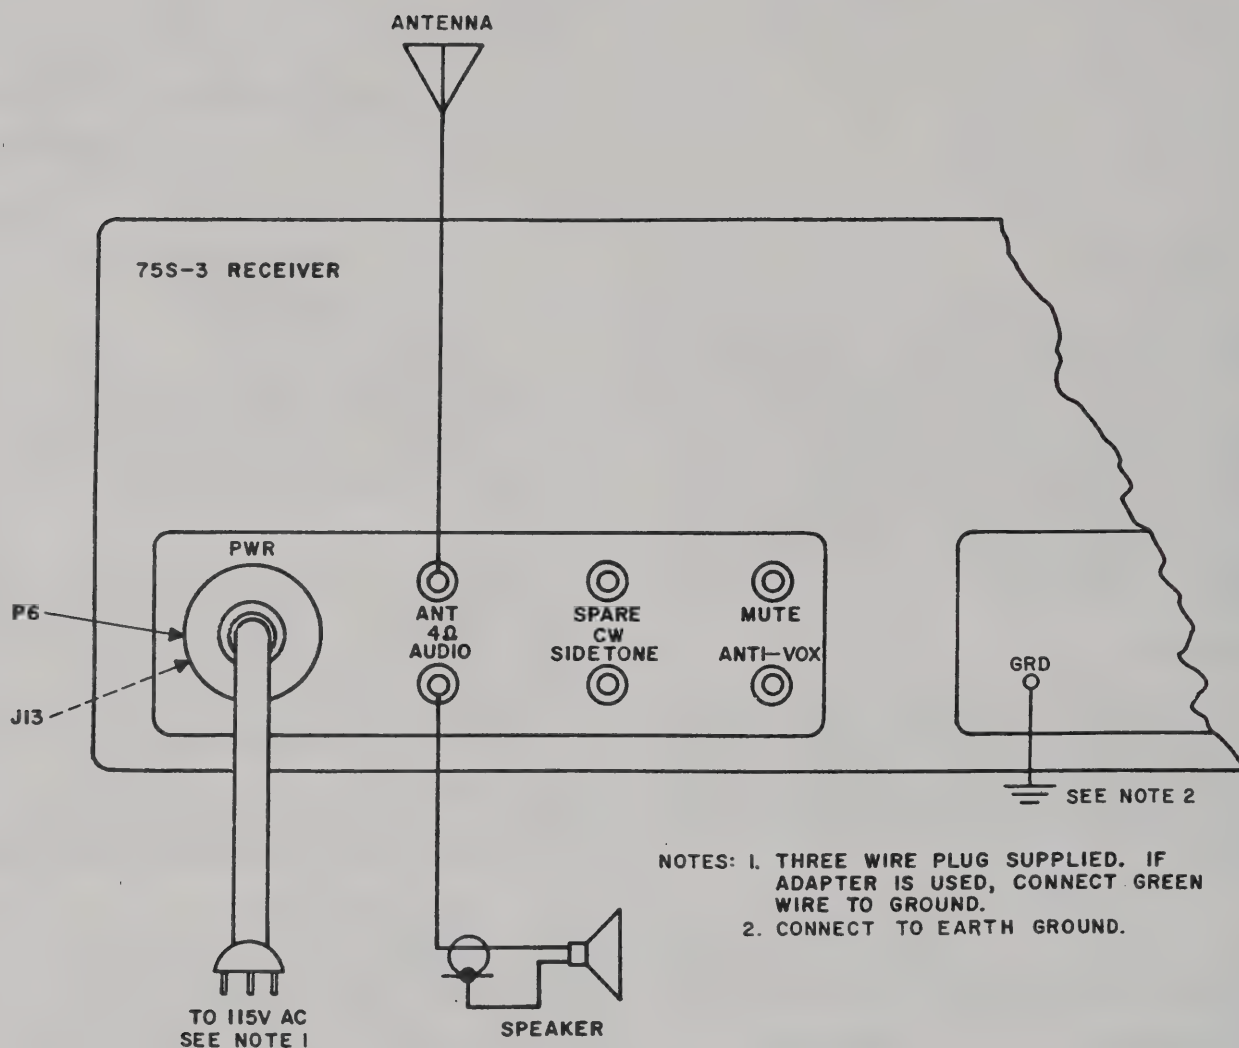

Figure 1-1. External Connections
**1.2.1 EXTERNAL CONNECTIONS.** Figure 1-1 shows the location of jacks for external connections to 75S-3 and 75S-3A receivers. The power cable plugs into socket J13. The ANT jack is a nominal 50-ohm antenna input. The 4  $\Omega$  AUDIO jack is for connection of a speaker.